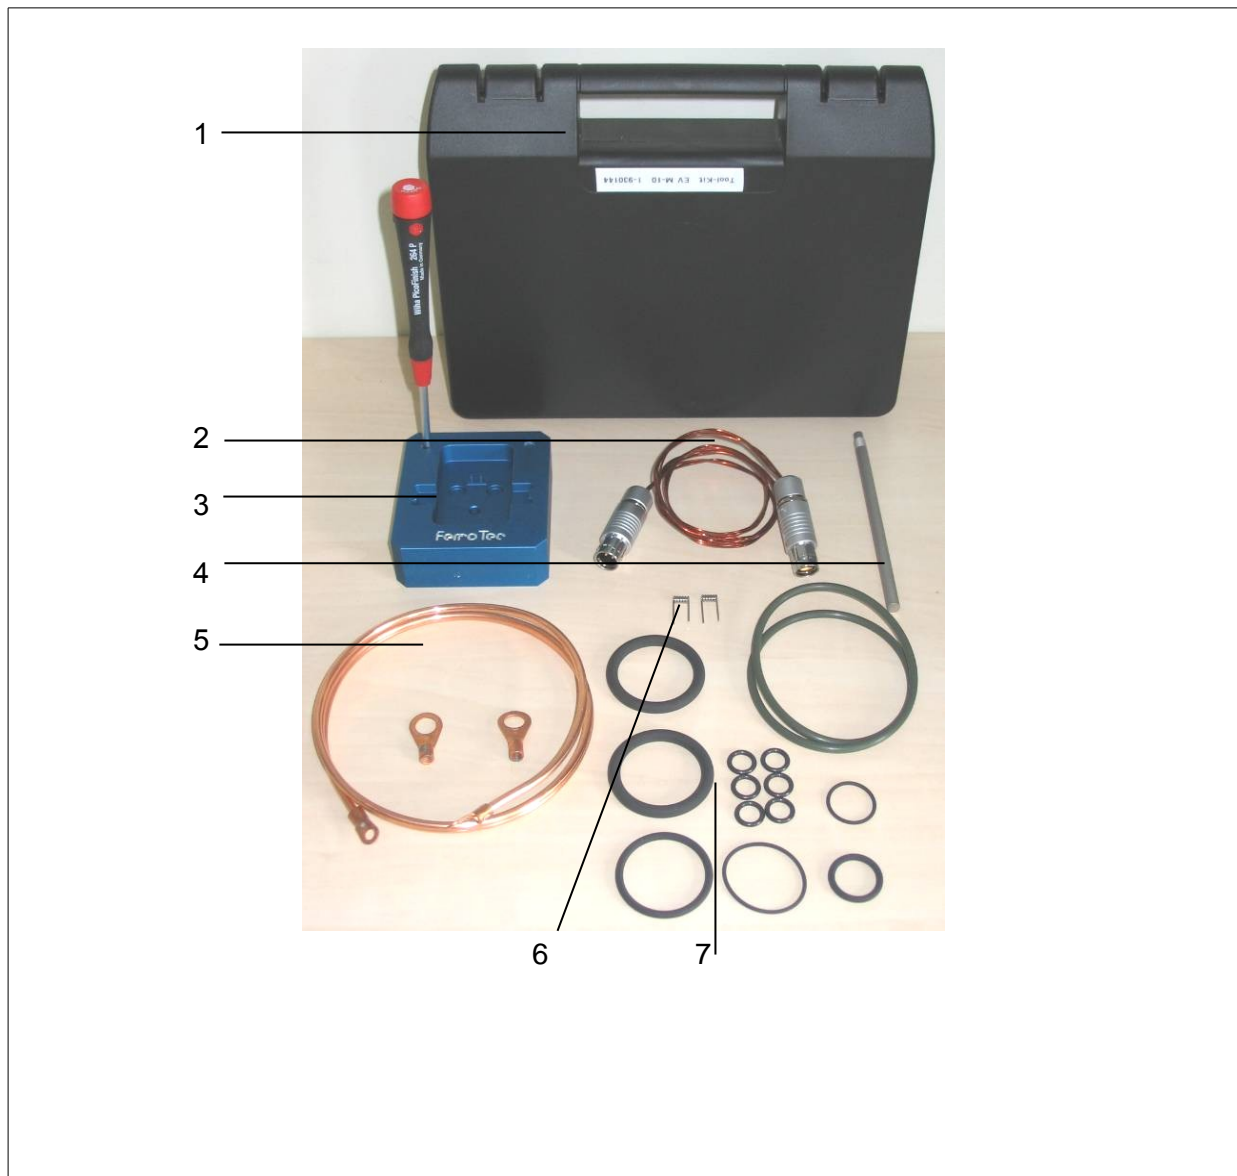

Fig. 5-2 Tool Kit
- 9 Technical reference material and tool kit (see fig. 5-2)